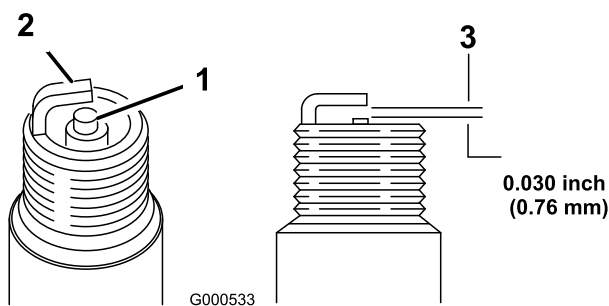

Figure 36
11. Set the gap on the plug to 0.030 inch (0.76 mm) (Figure 36).